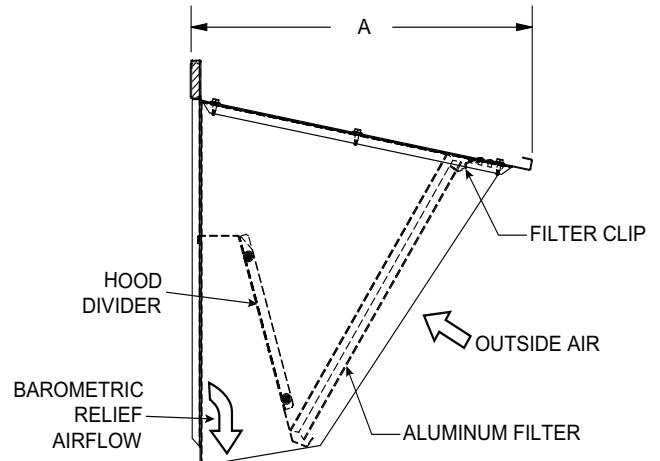
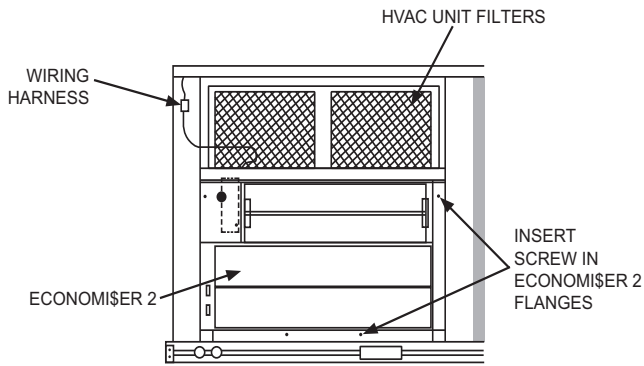
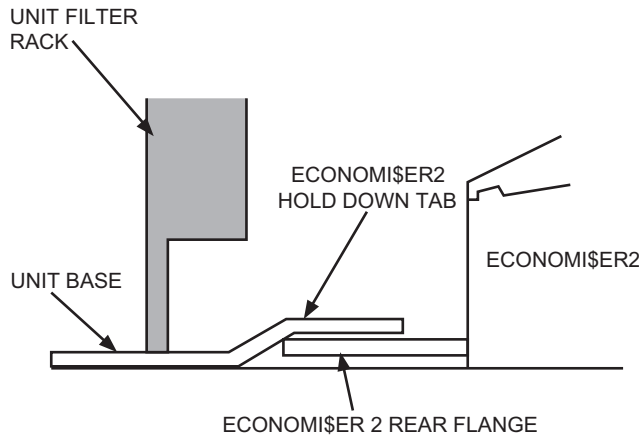

Fig. 5 — Fully Assembled Hood
Fig. 6 — EconoMiSer® 2 Installed on HVAC Unit (Small Cabinet Economizer Shown)
Fig. 7 — Rear EconoMiSer® 2 Flange Installation (Small and Large Cabinet)
6. The hood should now be fully assembled; see Fig. 5 for reference. Slide the EconoMiSer 2 assembly into the rooftop unit (see Fig. 6). On small and large cabinets be sure to engage the rear EconoMiSer 2 assembly flange under the tabs in the return-air opening of the unit base (see Fig. 7).
7. Secure the EconoMiSer® 2 assembly to unit along side and bottom flanges using the screws provided (see Fig. 6).
14. Install the economizer hood filter(s) by opening the filter clips which are located underneath the hood top. Insert the aluminum filter(s) into the bottom filter rack (hood divider). Push the filter into position past the open filter clips. Close the filter clips to lock the filter into place (see Fig. 5).